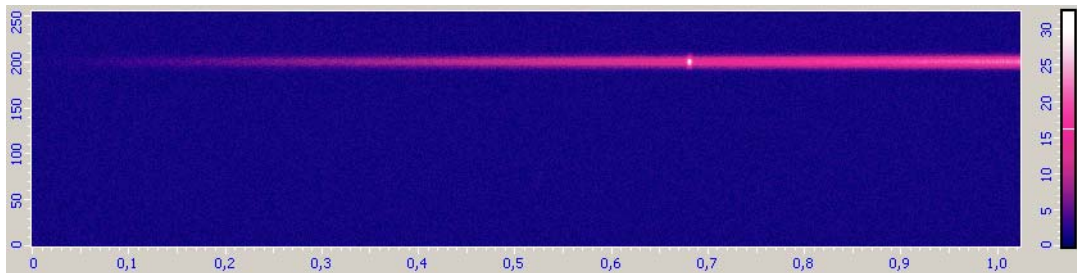

Fig. 12-17. Image collected with the CCD-matrix
2. Acquire the scan by clicking the **Single Scan** button. The acquired image will display where the signal is concentrated (Fig. 12-17).